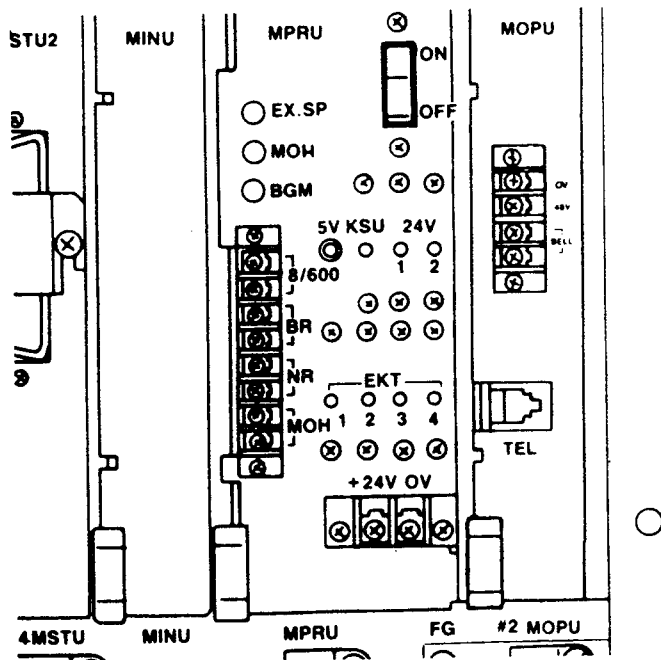

FIGURE 43—MPRU CONNECTION STRIP
12.01 All connections to miscellaneous equipment are made via the barrier strip mounted on the front of the MPRU PCB, as shown in Figure 43.